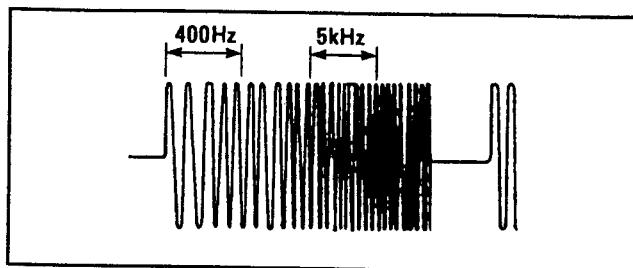

Figure E24
4. Adjust VR4001 (CH1) and VR4003 (CH2) so that the 400Hz and 5KHz levels become the same (0 ± 0.5 dB) as shown in Figure E24.